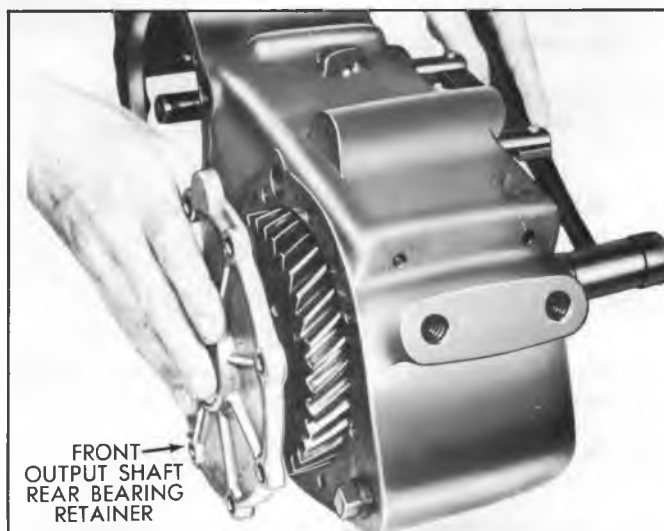

Fig. 4C—Removing Front Output Shaft Rear Bearing Retainer
4. Tap on output shaft with a soft hammer (Fig. 4C) and remove shaft, gear assembly, and rear bearing retainer from case.